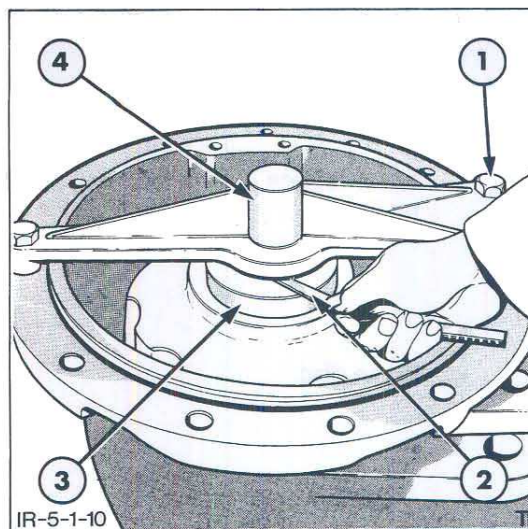

Figure 10
- e. Using a feeler gauge measure the gap between the bridge bar and the gauge ring, Figure 10.